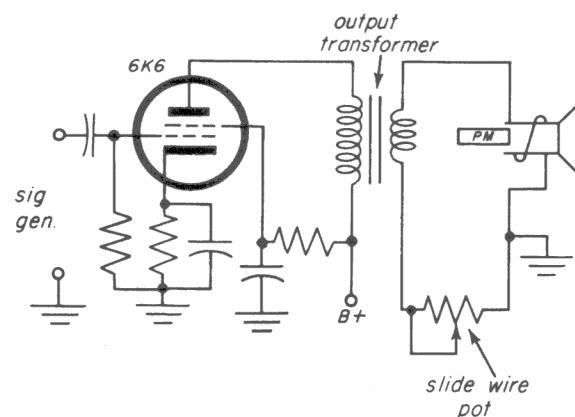

Fig. 26-17
Step 1. Disconnect the previous circuit on the secondary side of the transformer. Connect the speaker voice coil and the slide-wire potentiometer in series, as shown in Fig. 26-17.